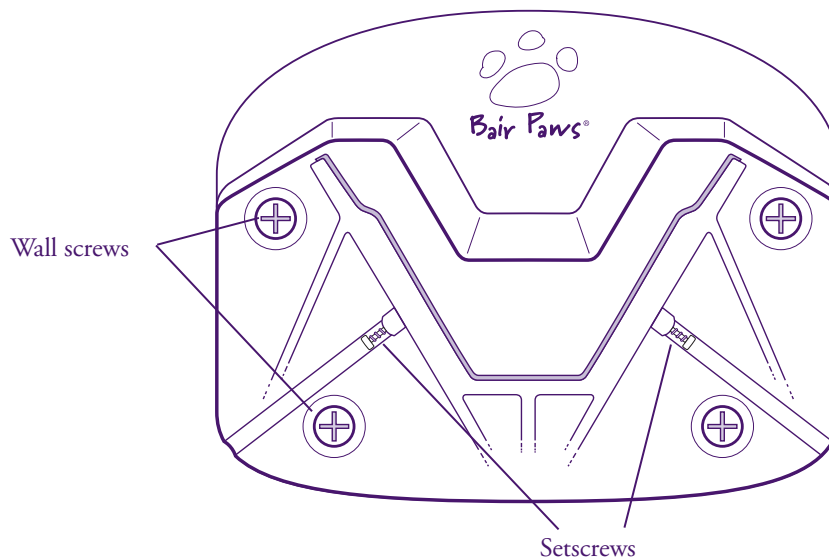

Figure 1. Front view of wall-mount bracket.
1. Using the four wall-screw holes on the wall-mount bracket (see Figure 1) as a template, mark the position for the four wall anchors on the desired wall. The use of a level is recommended.